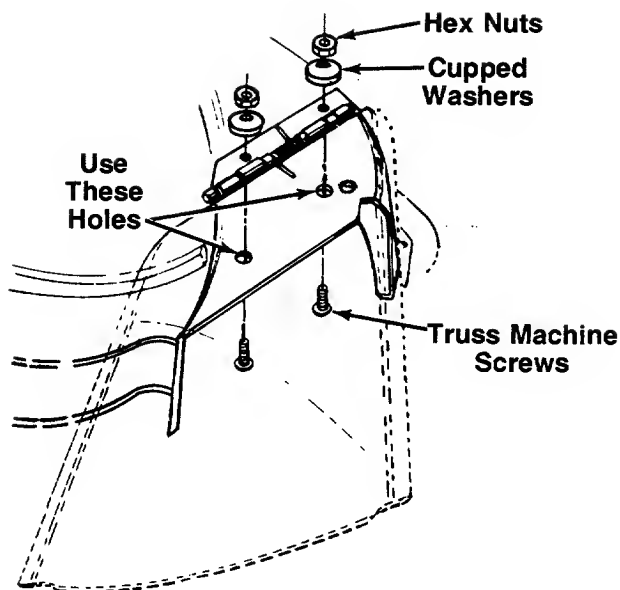

FIGURE 1.
Assemble the chute to the deck, using the holes shown in figure 1.
2. Place the chute deflector in position as shown in figure 1. Secure with hardware just removed.